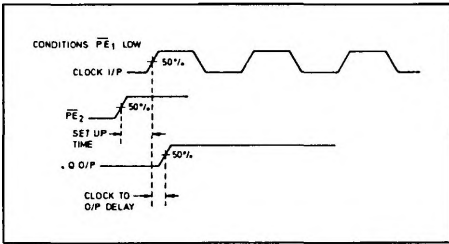

Fig. 3 Set-up timing diagram
- Set-up time is defined as the minimum time that can elapse between a L \rightarrow H transition of a control input and the next L \rightarrow H clock pulse transition to ensure that the \rightarrow 3 mode is forced by that clock pulse (see Fig. 3).